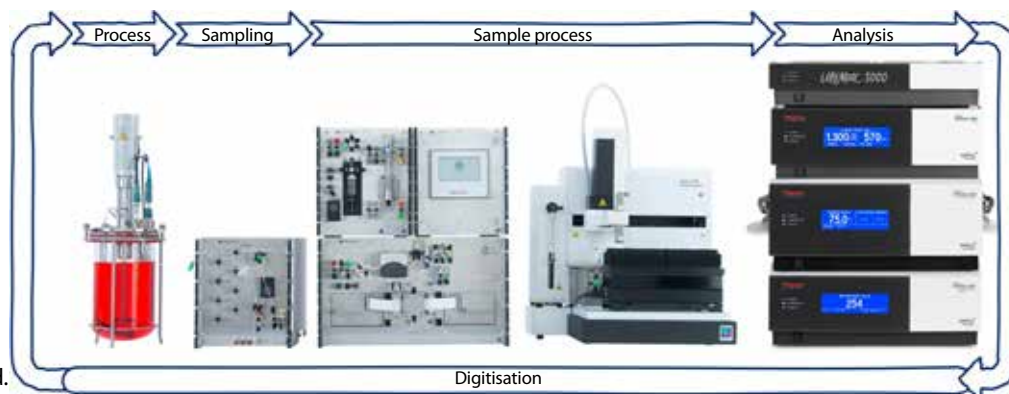

Figure 1: Integrated PAT solution for automated sampling, sample processing, sample analysis, and digitisation, enabling direct feedback to the process (1)
3. A bioprocess software (Lucullus PIMS, Securecell AG) to control all devices and manage the data: this combination results in an integrated PAT solution, as shown in Figure 1